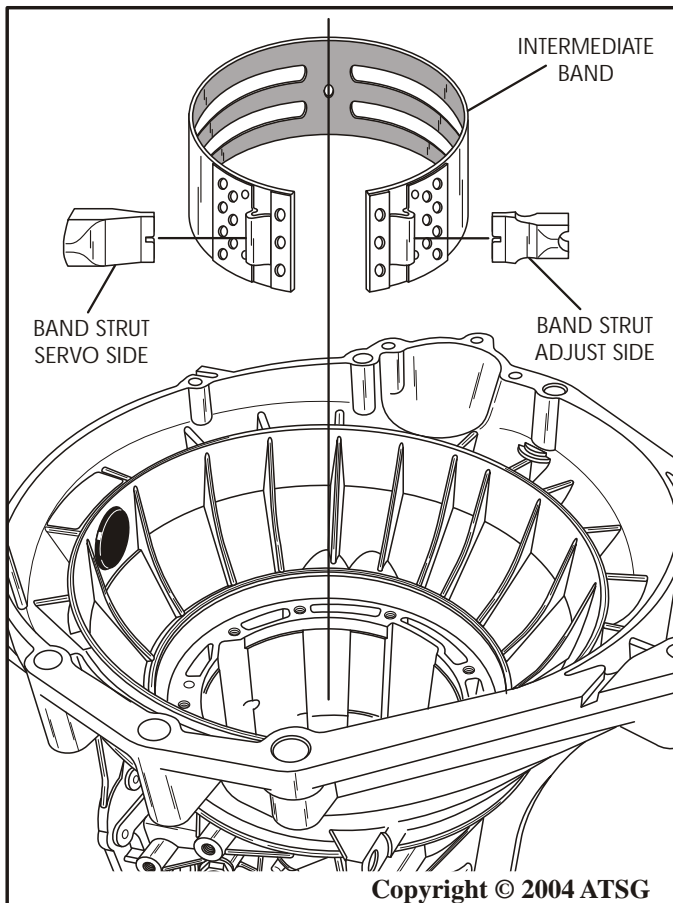

Figure 43
38. Remove the center support and set aside for component rebuild, as shown in Figure 43.
39. Remove the intermediate band assembly and both band struts, as shown in Figure 43.
Note: Notice the difference in the band struts and which side they are located, as shown in Figure 43.